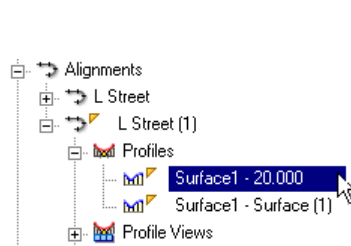

Figure 6-41 Added profiles in the Profiles node of the L Street (1) alignment
The two profiles, the offset profile and the original profile, are added in the **Profiles** node of the parent **L Street (1)** alignment collection as **Surface1 - 20.000** (at 20' offset) and **Surface1 - Surface (1)** in the **Prospector** tab, as shown in Figure 6-41. To view the profile, expand **Alignments > L Street (1) > Profiles** in the **Prospector** tab of the **Toolspace** palette.